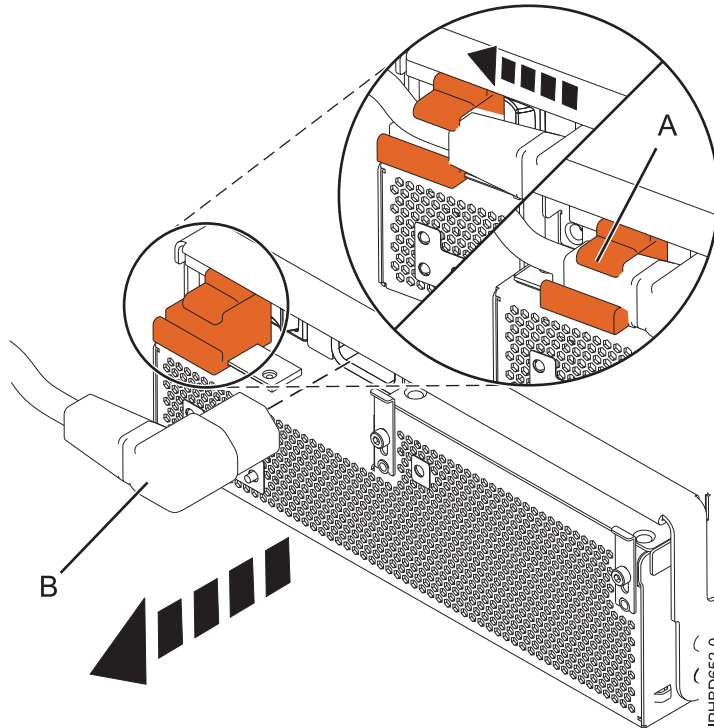

Figure 13. Disconnecting the power cable from the front of an expansion unit
- At the front of the expansion unit, slide the cable retention bracket for the power supply that you want to remove, to the open position (A). Disconnect the cable (B) as shown in Figure 13.